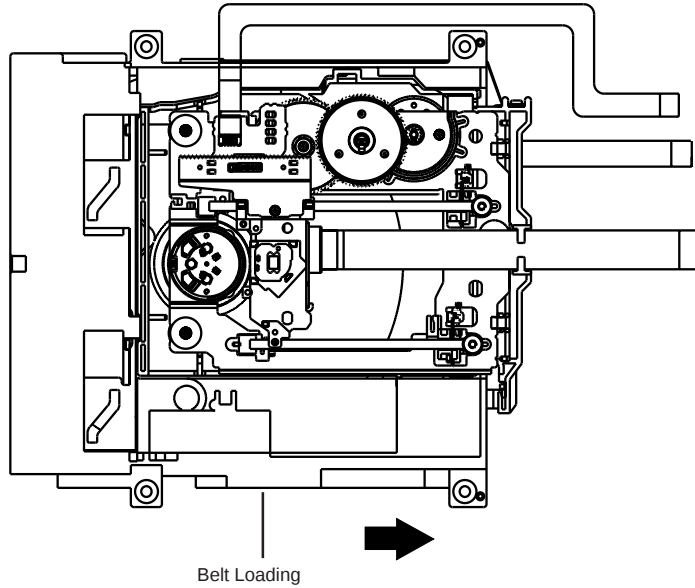

Fig. 1
1. Remove the Back Cabinet and Angle Deck. **(Refer to item 1 of the DISASSEMBLY INSTRUCTIONS.)**
2. Slide the Belt Loading toward the arrow direction by hand to release the lock. **(Refer to Fig. 1)**